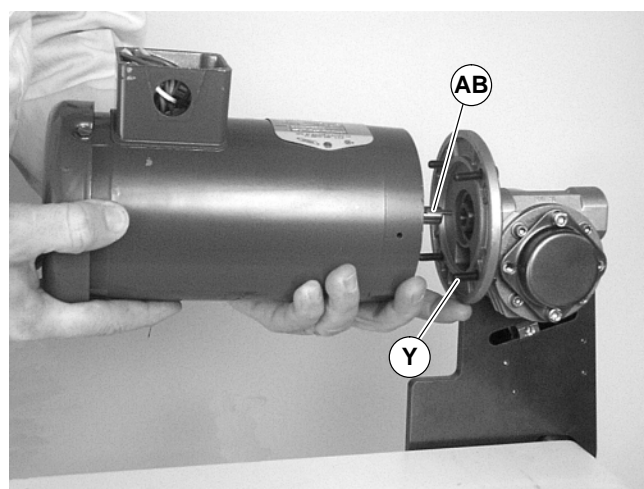

Figure 21
5. With key (AB of Figure 21) in keyway, slide motor and gear reducer together. Install screws (Y) and tighten.